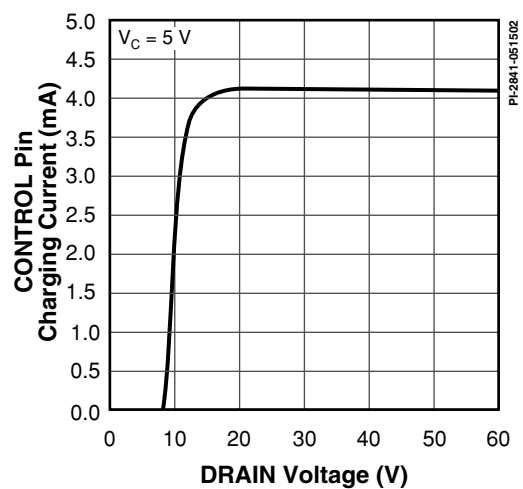

Figure 42. I_C vs. DRAIN Voltage.
- D. It is possible to start up and operate *DPA-Switch* at DRAIN voltages well below 16 V. However, the CONTROL pin charging current is reduced, which affects start-up time, auto-restart frequency, and auto-restart duty cycle. Refer to Figure 42, the characteristic graph on CONTROL pin charge current (I_C) vs. DRAIN voltage for low voltage operation characteristics.